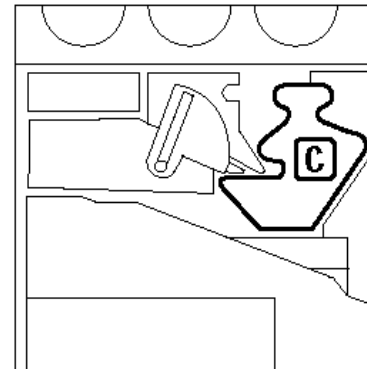

Figure 15: Locating the Developer Waste Container
- 3 Locate the Developer Waste container (area C in Figure 15).